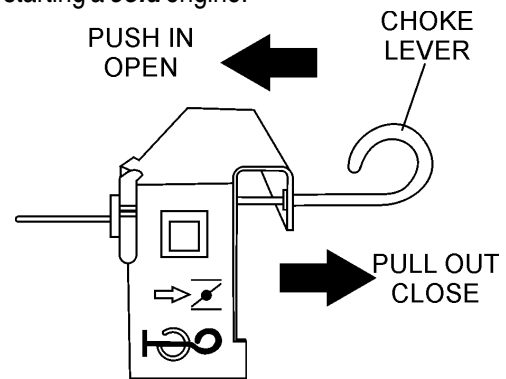

Figure 12. Choke Lever
2. Place the **choke lever** (Figure 12) in the "CLOSED" position if starting a **cold** engine.
3. Place the **choke lever** (Figure 12) in the "OPEN" position if starting a **warm engine** or the **temperature is warm**.
- If the engine has started, slowly return the choke lever (Figure 12 ) to the **"OPEN"** position. If the engine has not started repeat steps 1 through 5.